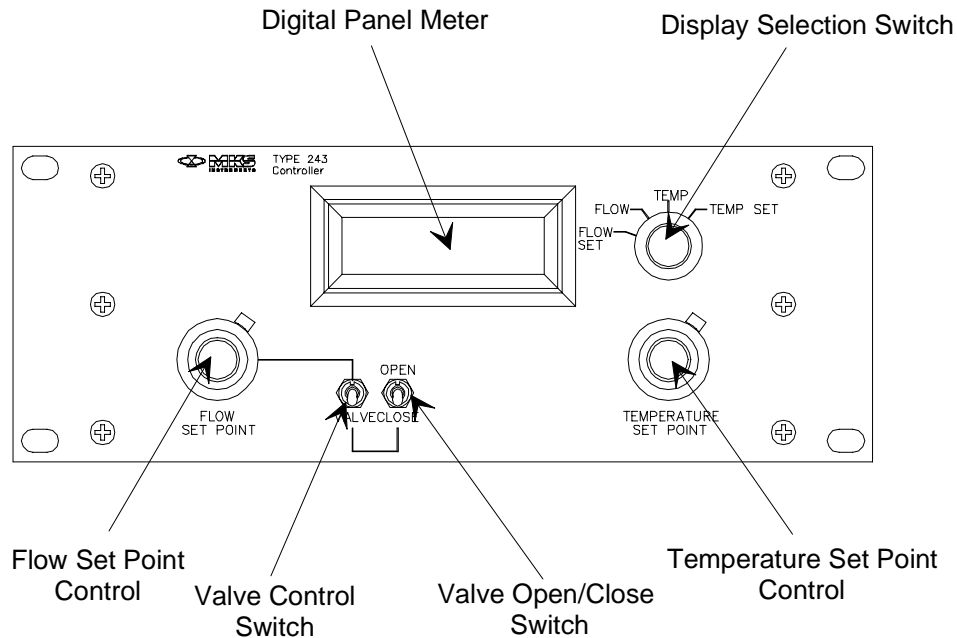

Figure 6: Front Panel Controls
4. Set the flow and temperature set points using the potentiometers on the front panel (refer to Figure 6, page 29).